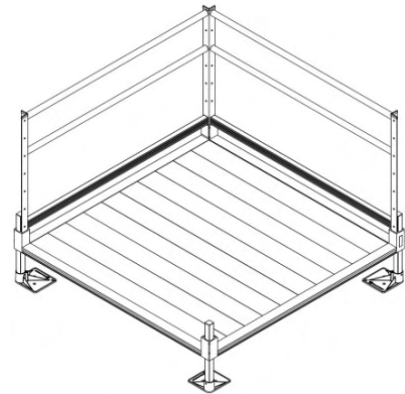

FIG. 2.10
- FIG. 2.10 Low profile platform turn configuration